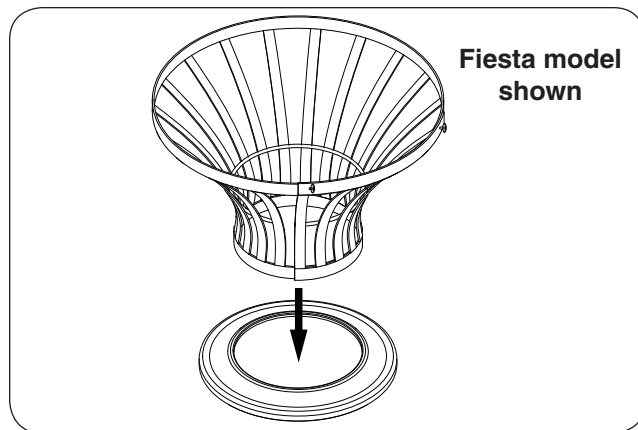

Fig. 18-1 Four-piece models: place base
1. **CAREFULLY** place the base bottom and base in an appropriate location (see Fig. 18-1, and refer back to the LOCATION section if needed).